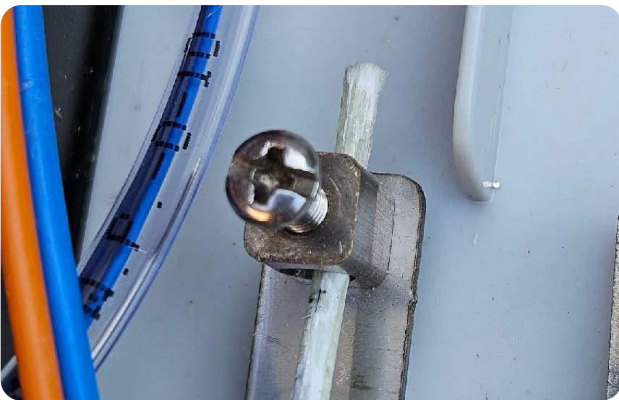

Fig. 7a
- Insert GRP rod onto the retention bracket as shown in Fig. 7a